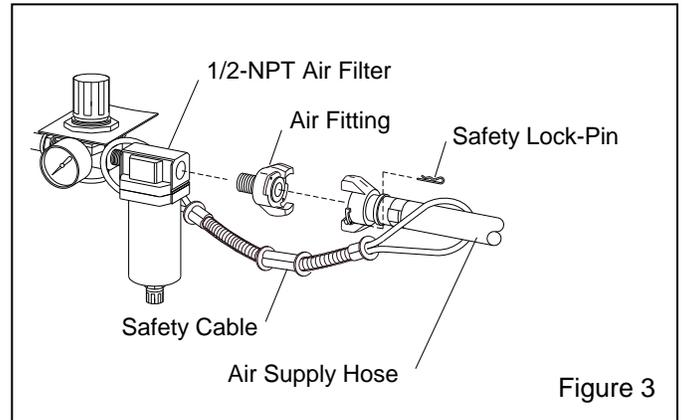

Figure 3
**2.1.4** Apply thread sealant to the male threads of an air fitting that is compatible with the air supply hose fitting, as noted in Paragraph 2.1.2, and install it onto the 1/2-NPT air filter as shown in Figure 3. Note that the style of connection shown is for reference only.